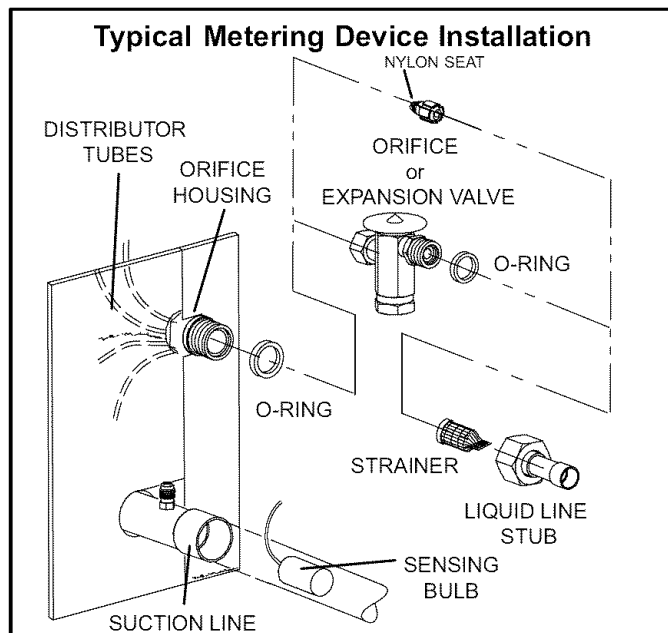

Figure 2
1. Ensure that the orifice is installed with the nylon seat pointing toward the distributor (see figure 2).
1. Remove factory-installed metering orifice from orifice housing (see figure 2).
**The sensing bulb must be positioned as shown in figure 2 to ensure proper valve operation. All piping, metering devices, and connections must be insulated to prevent moisture damage caused by sweating. If the equipment not properly insulated, moisture could damage other equipment.**